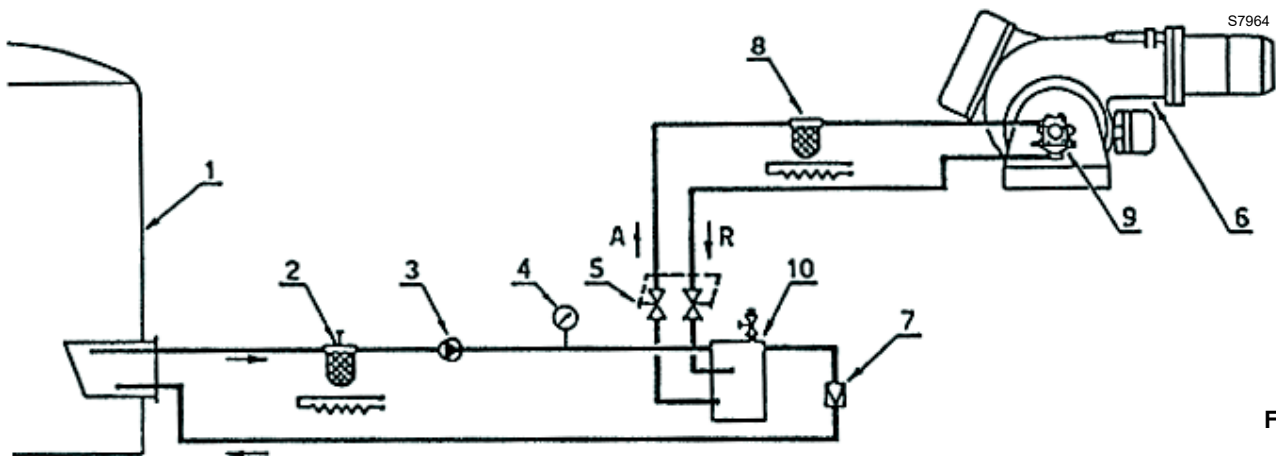

Fig. 17
- To limit the formation of gas or vapours, the fuel pressure in degassing unit 10)(Fig. 17) must be regulated in relation to the feed temperature, as shown in the table opposite.
Key (Fig. 17)